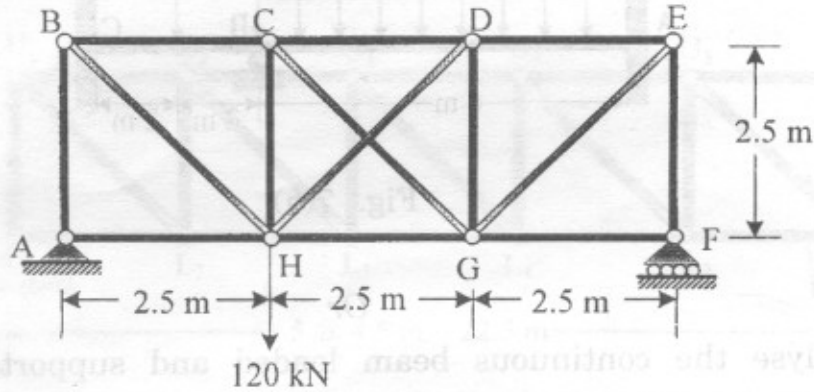

Fig. 6
6. Determine the forces in all the members of the truss as shown in Fig. 6. The sectional areas of the members of the top chord are 7500 mm^2 each, of the members of the bottom chord are 5000 mm^2 each, of the verticals 3000 mm^2 each and of the diagonals 2500 mm^2 each : [16]